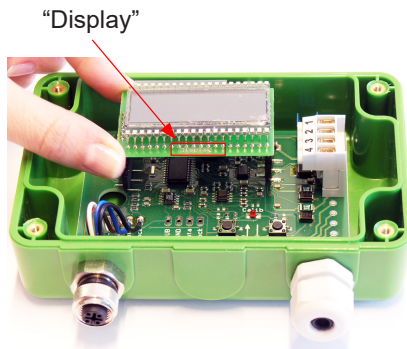

Fig. 7 Display orientation
4. observing its orientation (Fig. 7). Push the display gently straight down to plug it in. Observe the ESD regulations while doing this.